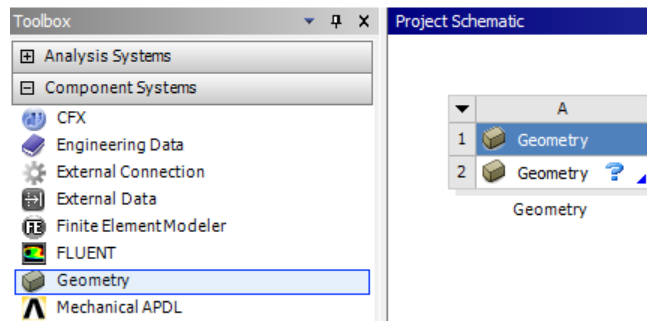

Figure 3-13 The **Geometry** component system added to the **Project Schematic** window
3. Double-click on **Geometry** displayed under the **Component Systems** toolbox in the **Toolbox** window; the **Geometry** component system is added and displayed in the **Project Schematic** window, refer to Figure 3-13.
After the **Workbench** window is displayed and an analysis system is added to the **Project Schematic** window, the first step in any analysis is to define the geometry. There are two ways to define a geometry: by creating a new geometry and by importing an already created geometry from any solid modeling software. The **DesignModeler** window is used to create and edit geometries which are used in ANSYS Workbench. In ANSYS Workbench 14.0, a standalone system known as **Geometry** component system, is available to create geometries. Figure 3-13 shows a **Geometry** component system added to the **Project Schematic** window.